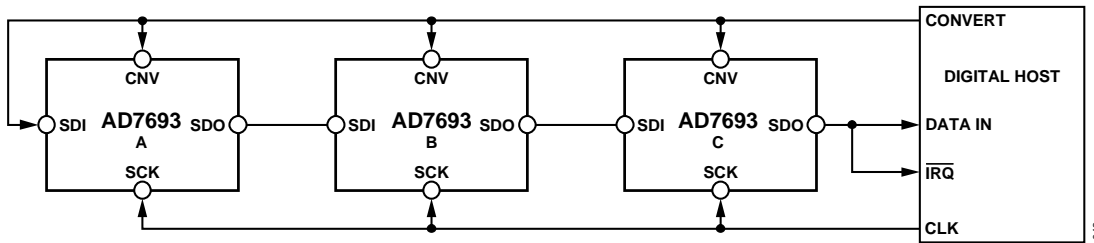
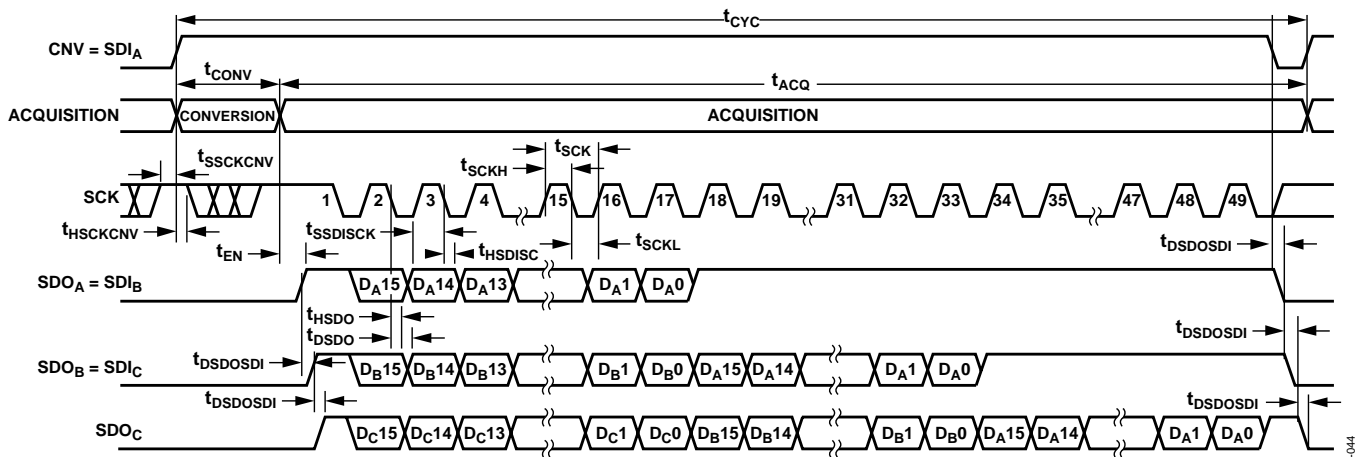

Figure 43. Chain Mode with Busy Indicator Connection Diagram
Figure 44. Chain Mode with Busy Indicator Serial Interface Timing
- In the chain mode if SCK is high during the CNV rising edge (see Figure 44).
A connection diagram example using three AD7693s is shown in Figure 43, and the corresponding timing is given in Figure 44.
subsequent data readback. When all ADCs in the chain have completed their conversions, the SDO pin of the ADC closest to the digital host (see the AD7693 ADC labeled C in Figure 43) is driven high. This transition on SDO can be used as a busy indicator to trigger the data readback controlled by the digital host. The AD7693 then enters the acquisition phase and powers down. The data bits stored in the internal shift register are clocked out, MSB first, by subsequent SCK falling edges. For each ADC, SDI feeds the input of the internal shift register and is clocked by the SCK falling edge. Each ADC in the chain outputs its data MSB first, and $16 \times N + 1$ clocks are required to readback the N ADCs. Although the rising edge can be used to capture the data, a digital host using the SCK falling edge allows a faster reading rate and consequently more AD7693s in the chain, provided the digital host has an acceptable hold time.